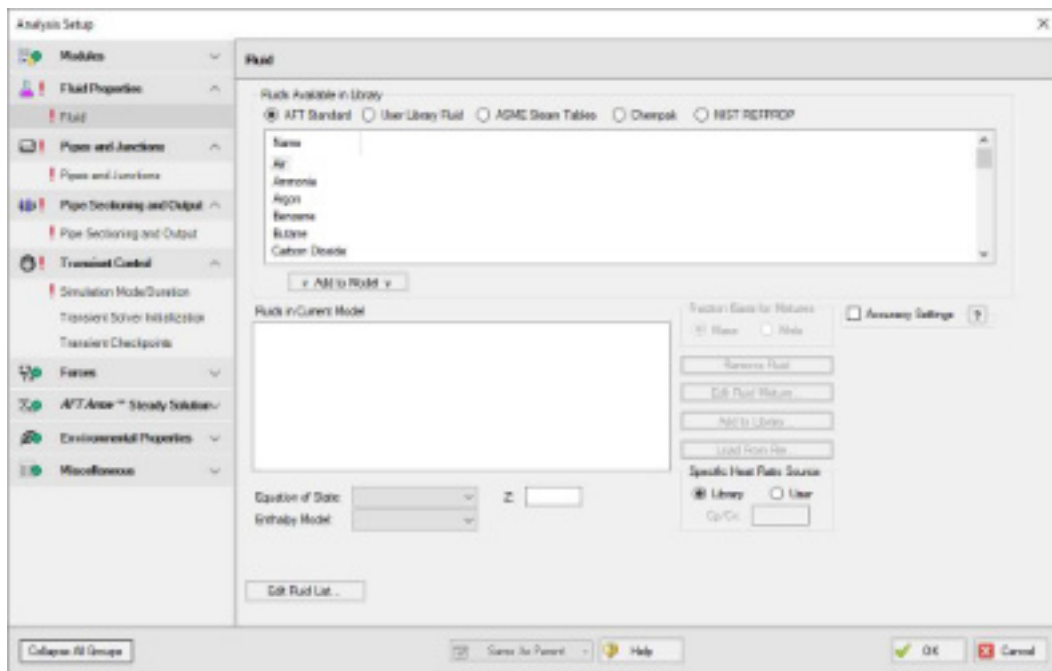

Figure 2.14 The Analysis Setup window tracks the defined and undefined model inputs
- **Click Analysis Setup on the Main Toolbar** to open the Analysis Setup window (see Figure 2.14). The Analysis Setup window contains various *groups* depending on which modules you may be using. Each group has one or more *items*. A fully defined group has every item within it defined with all required inputs. Complete every group to run the Solver. A group or item that needs more information will have a red exclamation mark to the left of the group or item name. After
Under the Modules group, click on the Modules item to open the Modules panel, shown in Figure 2.14. Here you can enable and disable the Pulsation Frequency Analysis (PFA) Add-on Module if it is available on the license. By default, the model will have all modules disabled. Make no changes to this panel for this example.